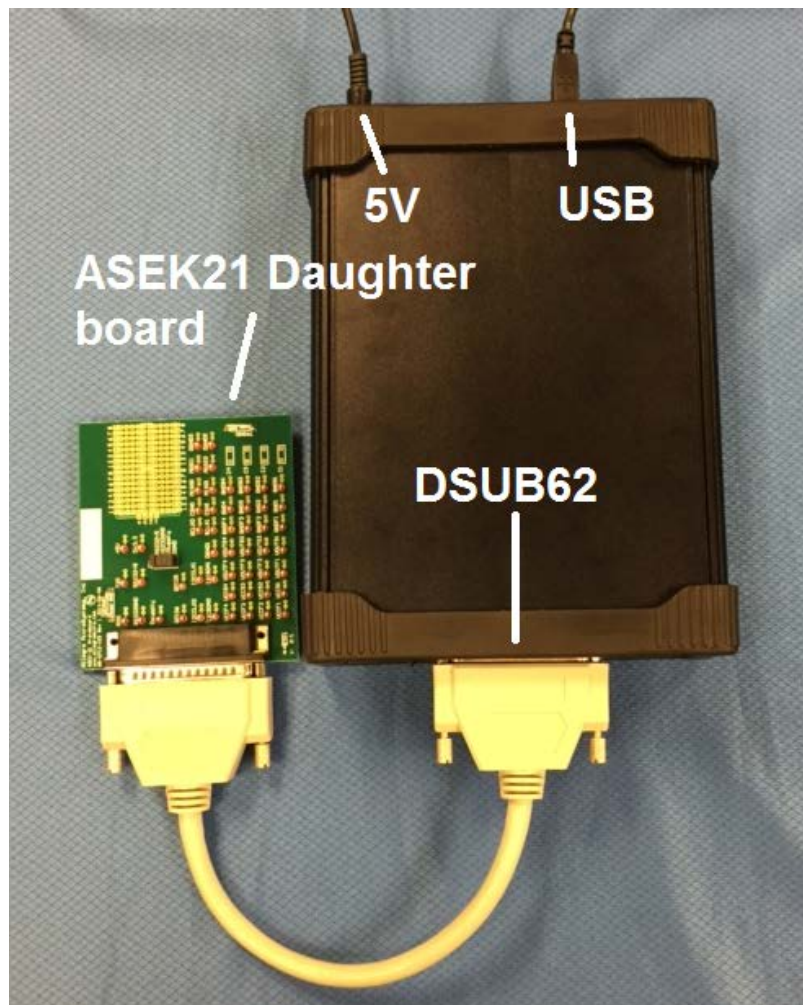

Figure 2: Assembled ASEK21
6. Complete setup is shown in Figure 2